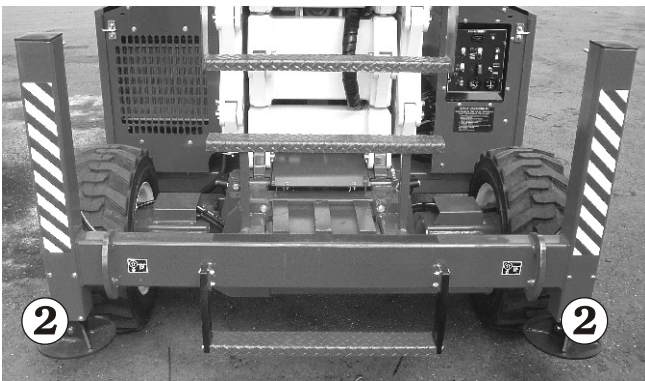

Figure 8.21
2. Pull and hold the **Stabiliser** switches 1 (see Figure 8.20) backward, one at a time, until all four stabiliser pads 2 (see Figure 8.21) contact the ground.